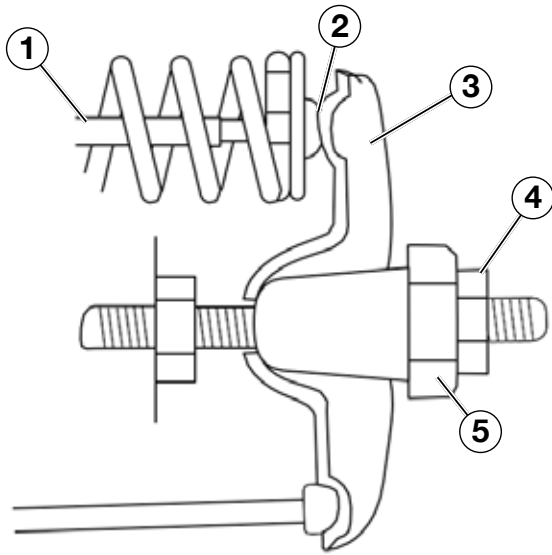

Figure 22
5. Insert a feeler gauge between the rocker arm and the push rod and check for clearance (see Figure 22). See Table 2 on page 24 for valve lash specifications.